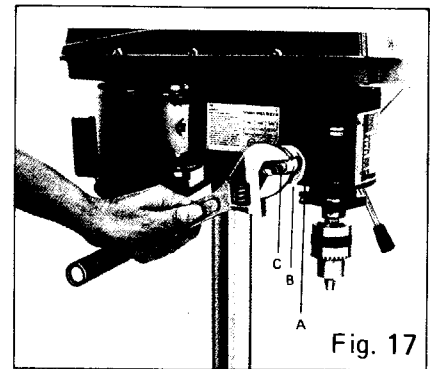

Fig. 17
2. Place screwdriver in lower front notch (A) of spring cap (B) and hold it in place while loosening and removing nuts.
3. Carefully turn screwdriver counter clockwise and engage next notch. Fig. 17.
4. Tighten inner nut (C) with wrench. Do not overtighten as this will restrict quill removal.